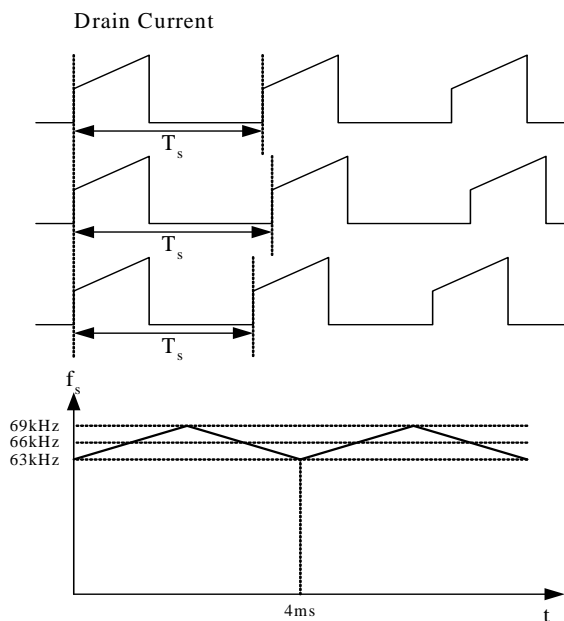

Figure 21. Frequency Modulation
**4. Frequency Modulation:** EMI reduction can be accomplished by modulating the switching frequency of a switched power supply. Frequency modulation can reduce EMI by spreading the energy over a wider frequency range than the band width measured by the EMI test equipment. The amount of EMI reduction is directly related to the depth of the reference frequency. As can be seen in Figure 21, the frequency changes from 63KHz to 69KHz in 4ms.